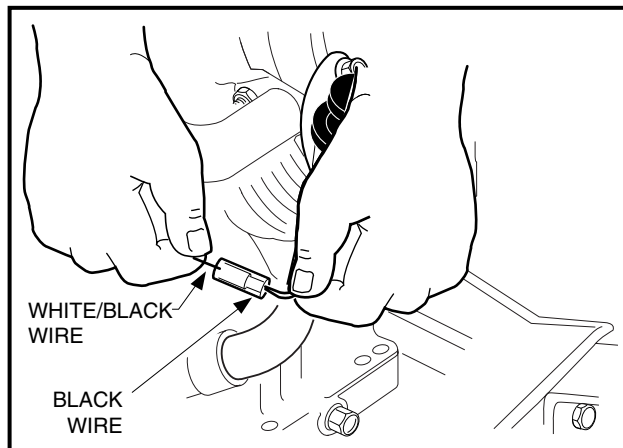

Figure 16-49 Ignition Kill Wire
22. Connect the engine kill switch wire (18-gauge white/black stripe) to the bullet connector at the lower right front of the engine (**Figure 16-49, Page 16-19**).